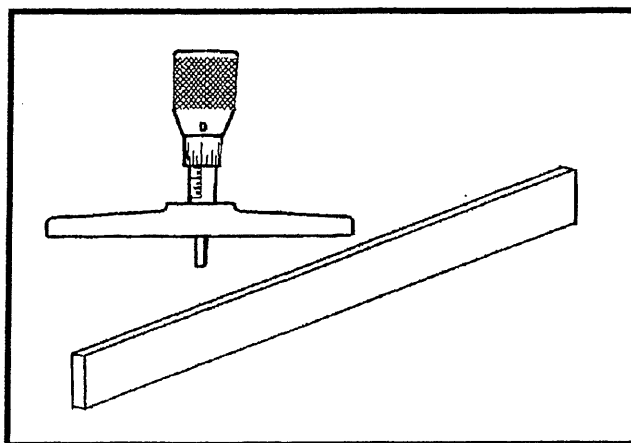
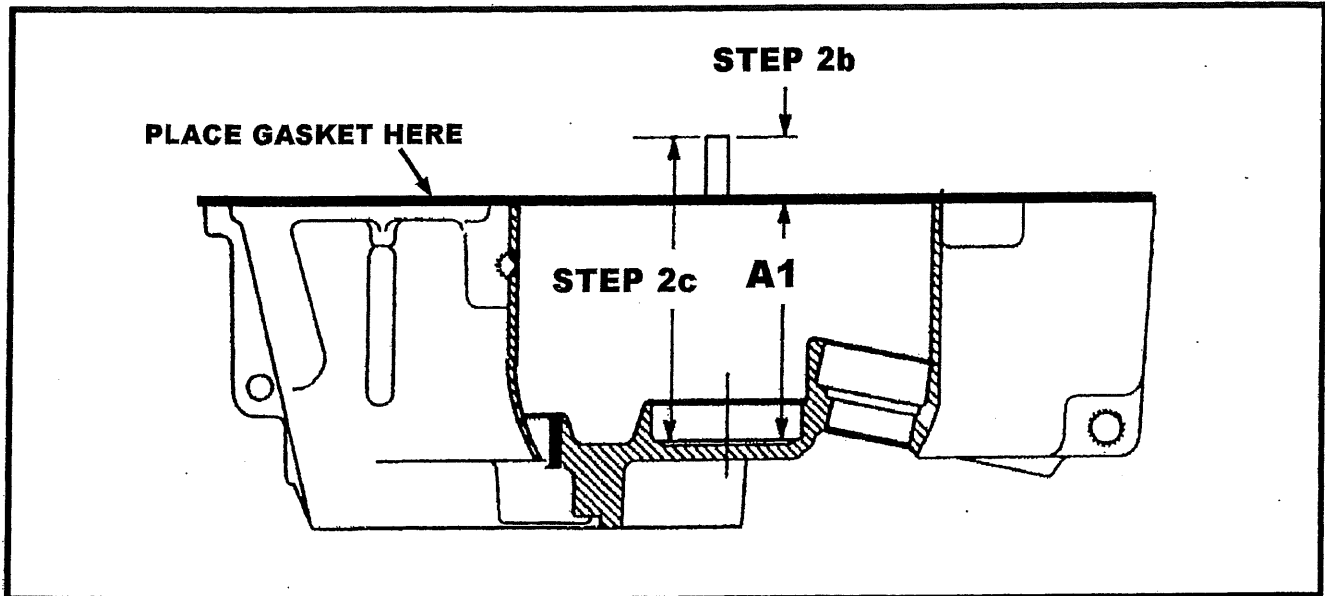

Figure 1-2
Figure 1-3 Case cut away
**PROCEDURE** A depth micrometer with extensions to reach six (6) inches, and a straight edge bar (figure 1-2) are required. **It is extremely important the straight edge is true and has no bends.**
1. Remove both bearing cups (137 & 142) and shims (138) from the casing (160) and cover (129). A heat lamp or suitable substitute will be required. Usually ten minutes with a 600 watt lamp will do the trick.
2. Measure the distance from the gasket surface to the bearing cup seat in the case as shown in figure 1-3.
- a. Place a cover gasket (130) on case surface. Use petroleum jelly to hold in place.